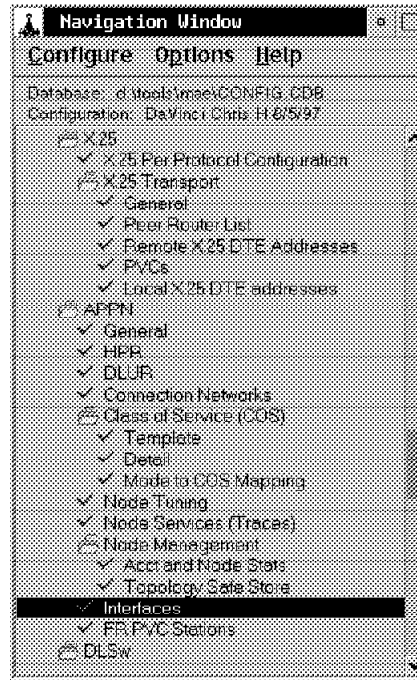

Figure 26-19. Selecting APPN Interfaces
- In the navigation Window, scroll down until the APPN folder is displayed and select **Interfaces** under this folder as shown below in Figure 26-19.